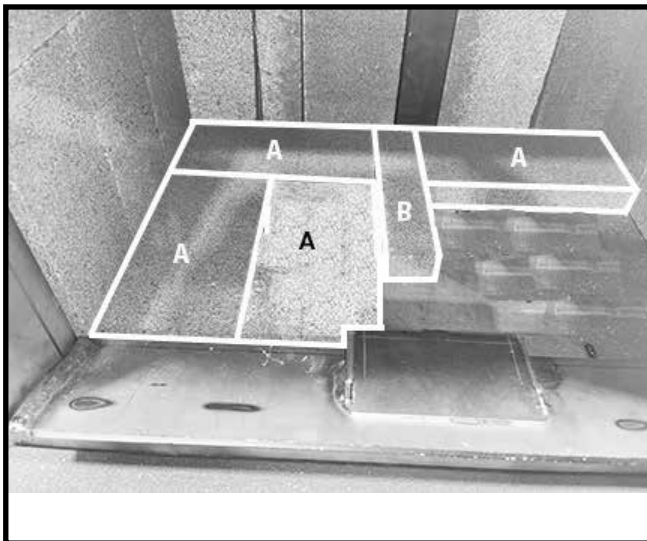

Figure 31: C brick in front of ash dump.
8. Place a "C" brick on the firebox floor in front of the ash dump and up against the "A" brick located on the left side of the firebox floor (Figure 31).